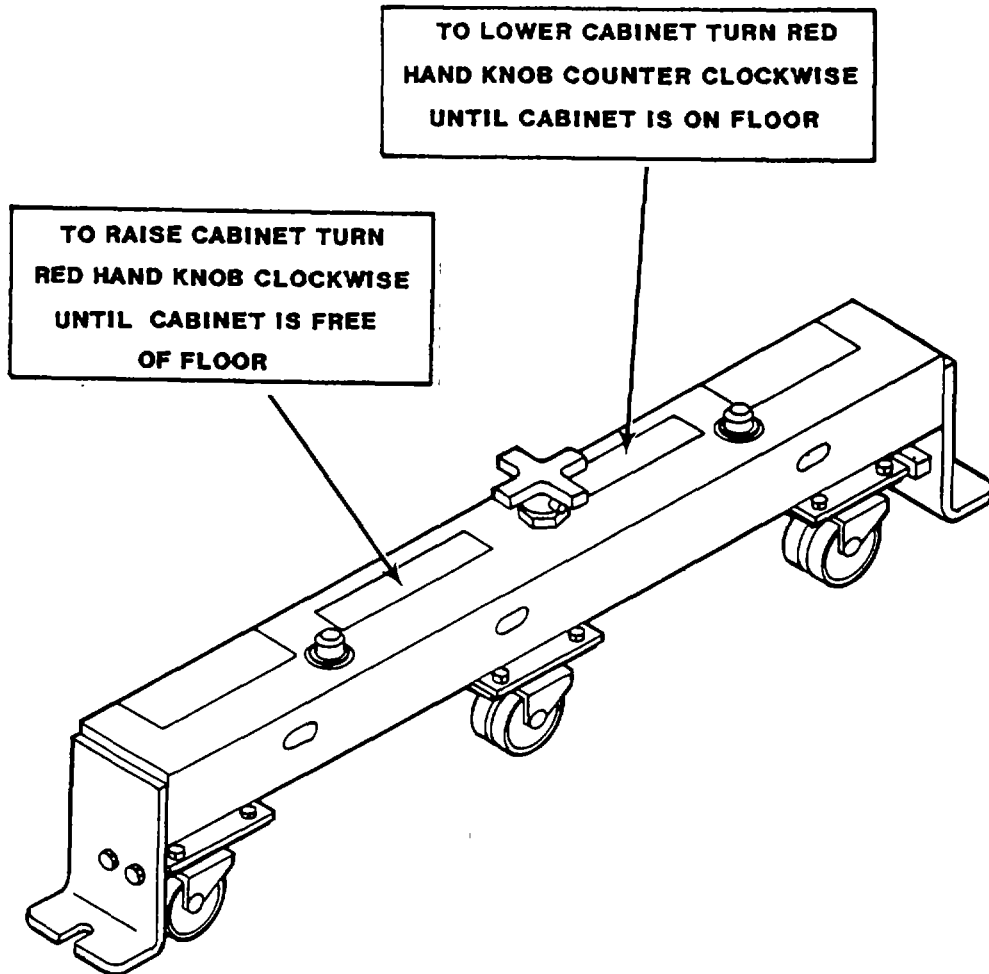

Figure 2-24. Transporter Assembly Decal Locations
- e. Transporter Assembly. Figure 2-24 below identifies decals on the transporter assembly.